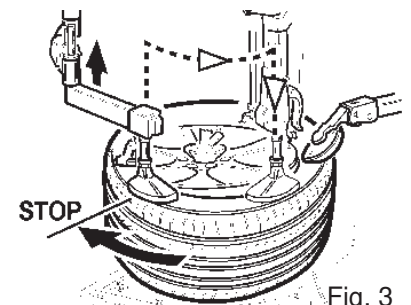

Fig. 3
-If this necessary condition for a correct mounting is not accomplished, use the bead pressing unit pushing its tool onto the tire side to insert the bead into the drop-center (fig. 3).